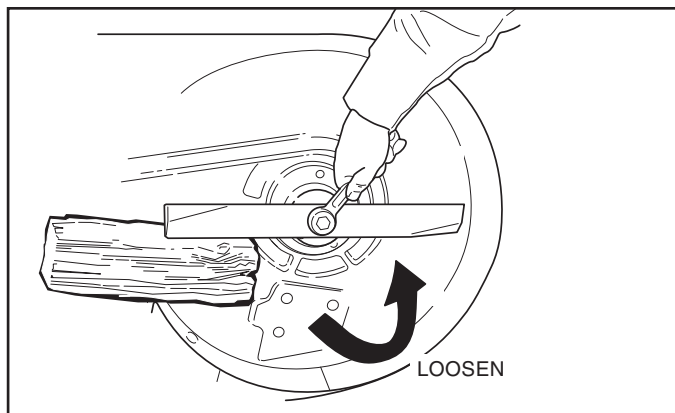

Figure 28
2. To remove blade, use a block of wood to prevent blade rotation while loosening the capscrew (see Figure 28).